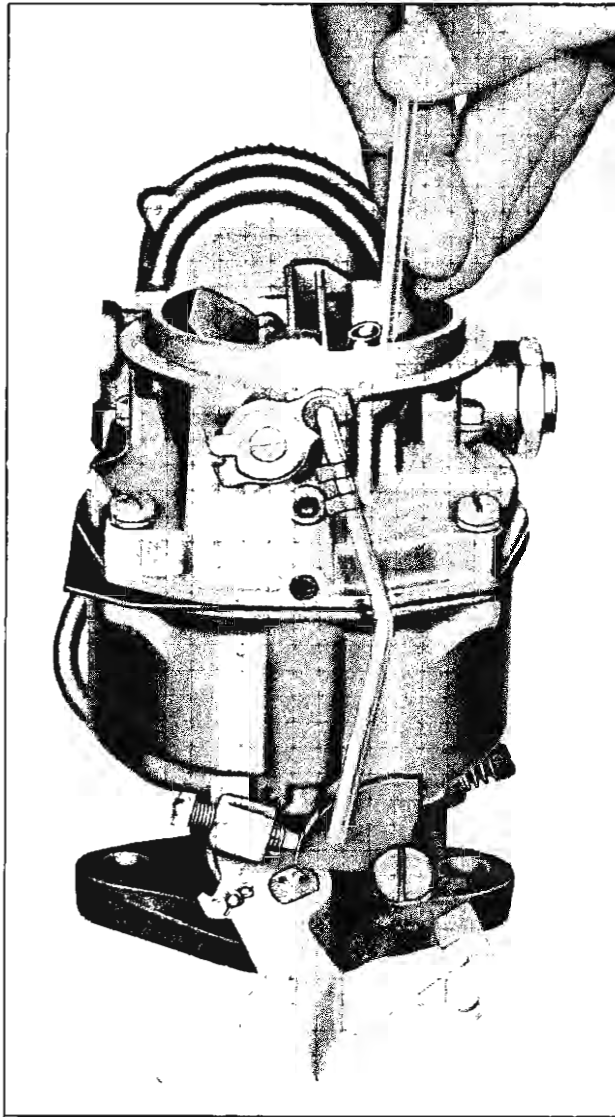

Fig. 12--Checking Fast Idle
- **Fast Idle Cam and Choke Relationship**—Place end of idle adjusting screw on next to highest step of fast idle cam, then position small end (.076") of Gauge J-6838 between lower edge of choke valve and bore of carburetor (fig. 12). The gauge should fit snugly in this position. If adjustment is needed, bend choke rod using Tool J-4552 until required clearance is obtained.